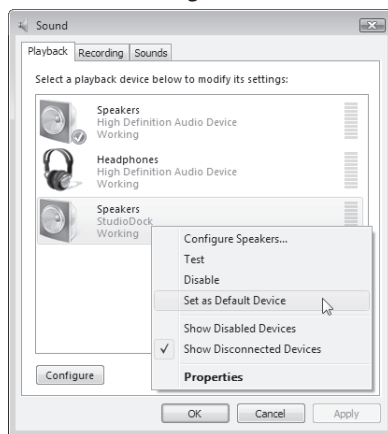

Figure 7
4. If it is not the default device, you can set it under the Sound Properties panel in Control Panel (figure 7).